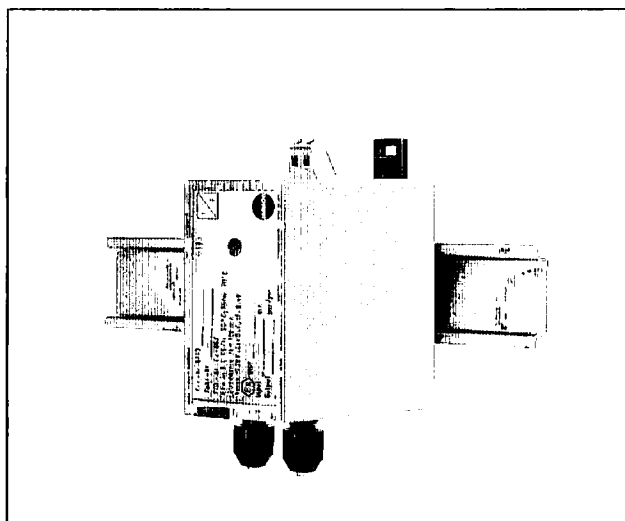

Fig. 1 · Type 6113-01 i/p Converter (mounting-rail unit)
**Type 6113-01** i/p Converter (Fig. 1) - Mounting-rail unit conceived for mounting on a top hat rail
The enclosures of the mounting-rail units (Fig. 1) are designed for mounting in control rooms or cabinets and are secured to 35 mm top hat rails according to DIN EN 50 022 (optionally available with mounting socket for 32 mm G-rails according to DIN EN 50 035).